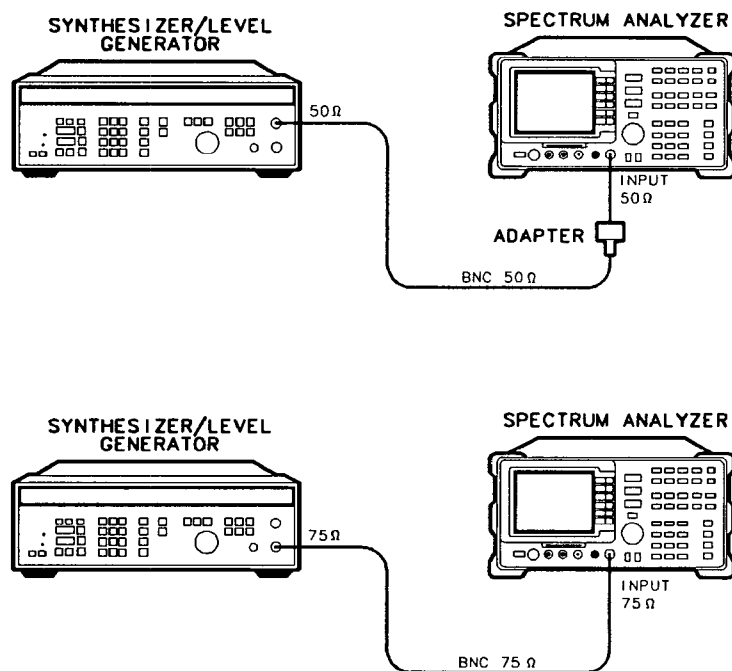

Figure 2-28. Frequency Response for 4 MHz Setup
- Using a cable, connect the HP 3335A directly to the INPUT 50 Ω . See Figure 2-28.
(Option 001: Using a 75Ω cable, connect the HP 3335A from the 75Ω OUTPUT to the INPUT 75Ω. Set the HP 3335A 50–75Ω switch to the 75Ω position. See Figure 2-28.)